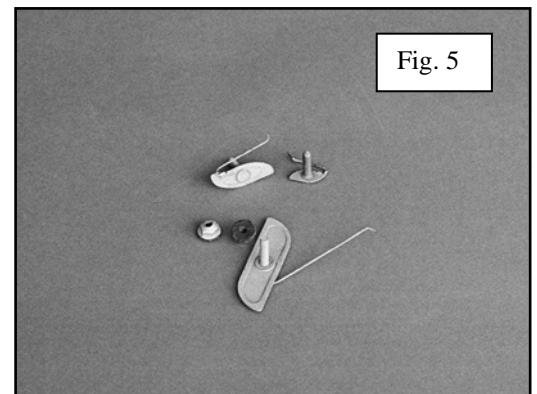

Fig. 5
3. *Metal Clip with built in stud and a tail.* These clips may be placed into the backside of the molding near the point where they will be installed and do not have to be slid into the molding from one end. See figure 5. If they are not installed properly, they will not stay in place and may cause damage to the molding or the painted sheet metal. The clip must be inserted into the molding by twisting or rotating it to get the ends of the clip under the molding edges on the back side. After rotating it into the molding as far as it will go, bend the clip “tail” so that it is also inserted under the molding back edge and applies spring tension to keep the clip rotated in its position. See figure 6. At this point the clips may be carefully moved along the molding so the studs will exactly align with the corresponding holes in the body. When the threaded stud is pushed through the hole, a nut with a gasket or dab of sealant is used to hold the clip and molding to the body.